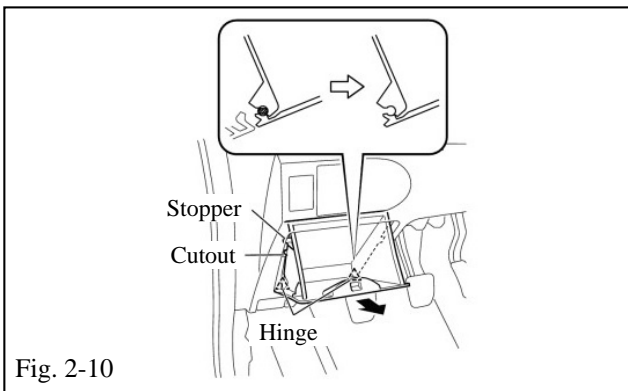

Fig. 2-10
- (1) Open the storage compartment (Fig. 2-10).
- (2) Pull the hinge side of the instrument panel box out horizontally with the instrument panel open and disengage the 2 hinges (Fig. 2-10).